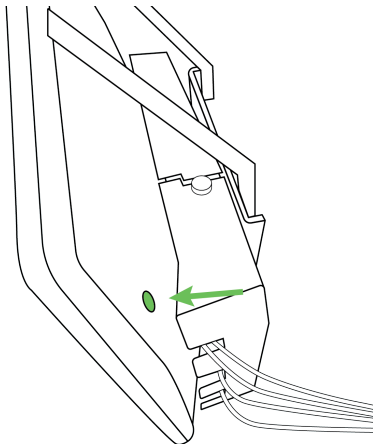

Figure 6-35. Turning on the Elo Touchscreen
- b. Turn on the Elo Touchscreen by pressing the power button located on the back right side of the monitor (Figure 6-35).